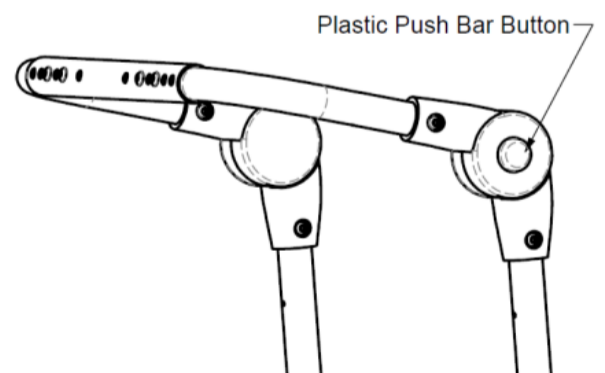

Figure 14.25: Adjustable push bar handle
1. To adjust the push bar angle, simultaneously press both plastic push bar buttons located on the top of both backrest posts (see Figure 14.25).